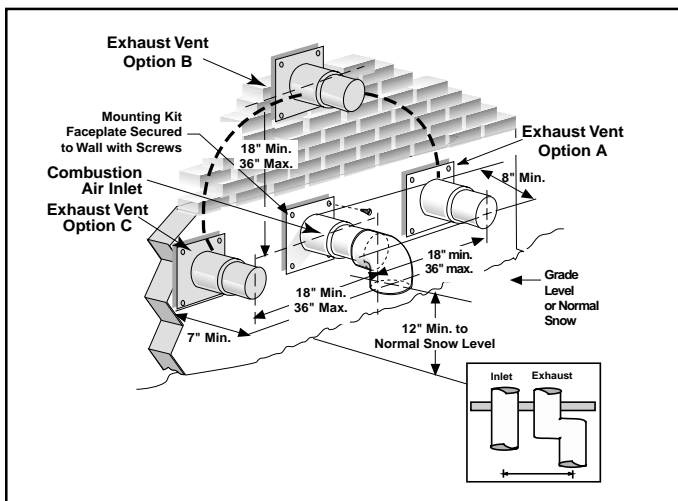

Figure 19. Exhaust and Combustion Air Pipe Clearances
Vent and combustion air intake terminations must be as shown in Figure 19.
Ensure that the combustion air vent and the exhaust vent are configured as shown in Figure 19. Improper vent termination can cause recirculation of the flue gases. This may result in furnace vibration. In severe cases, the furnace will cycle, due to the intermittent contact between the flame and the flame sensor. If you note these oscillations occurring, check the vent configuration. Make sure that the exhaust vent does not have a 90 degree termination.
4. Insure the combustion air inlet pipe has a 90 degree termination elbow, and is pointing downward as shown in Figures 19 & 20.